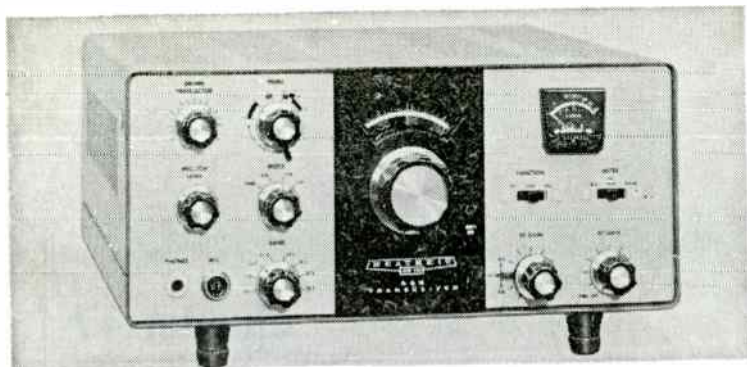
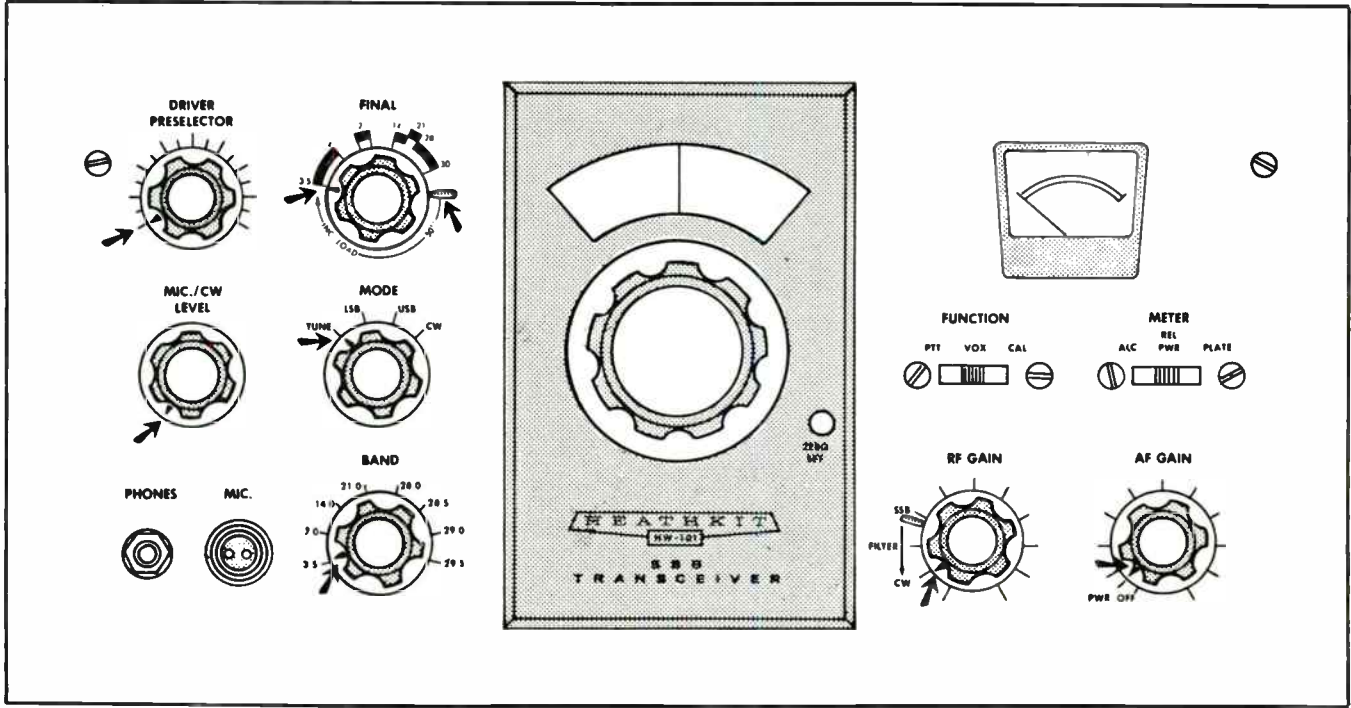

Fig. 17-1. Heath HW-101 tube-type HF SSB and CW rig.
Fig. 17-2. Heath HW-101 front panel.
The *classical* high-frequency amateur transmitter has vacuum tube final amplifiers matched to the antenna with a pi-network. There are always at least three controls in such tuning: *bandswitch*, *final tune*, and *loading*. In addition, there will also be *driver tune* or *grid tune* and, sometimes, a *drive level* control on some transmitters. Figure 17-1 shows a Heath HW-101 transceiver that is so constructed. A line drawing of the front panel is shown in Fig. 17-2. Several aspects of this front panel need explanation.
Many transmitters will inject a carrier for the CW mode, and this is the function of the *CW level* control in Fig. 17-2. This will also control the output of the transmitter in the CW mode because it controls the drive level to the final amplifiers. The keying of many SSB transmitters that operate in the CW mode is done in the VOX circuit. In some cases, the VOX relay is directly keyed. In others, a 1000-Hz sidetone oscillator that the operator hears in the speaker when keying the transmitter is keyed, and the 100-Hz signal is used to trip the voice-operated switch (VOX) as if it were a speech signal.
- Place the *tuning* control for the plate of the final amplifier either at midrange, or at the zone for the band used. Some transmitters have these zones (see Fig. 17-2) marked on the front panel. They are approximate indications, not absolute.
- Place the *loading* control at the end of its range in which the loading capacitor is *fully meshed*. This might be marked as the minimum loading or the lightest loading on the front panel of the transmitter. The transmitter in Fig. 17-2 is set for the correct position to begin loading.